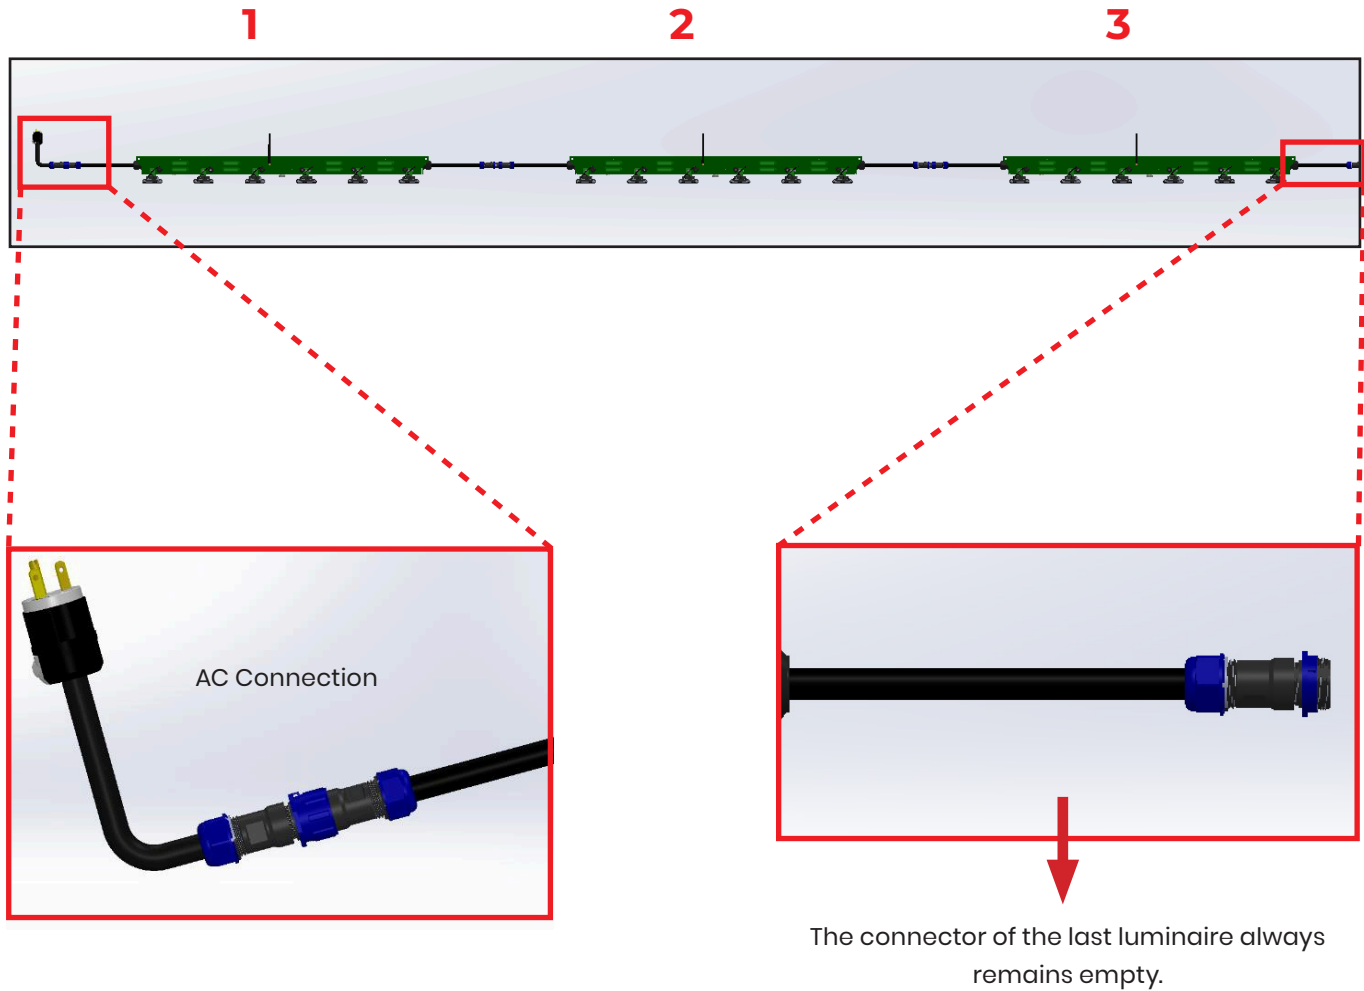

FIG. 3
NOTE: Consider that the first luminaire installed should be the one closest to the socket (the extension plug should be used on that luminaire) see FIG. 3
- The connection between luminaires should look as shown in FIG. 3.
- Once all luminaires are connected between them, you can now power up luminaire #1 (the closest to the output outlet) to power up the luminaire use the power cord with a plug (FIG. 3)